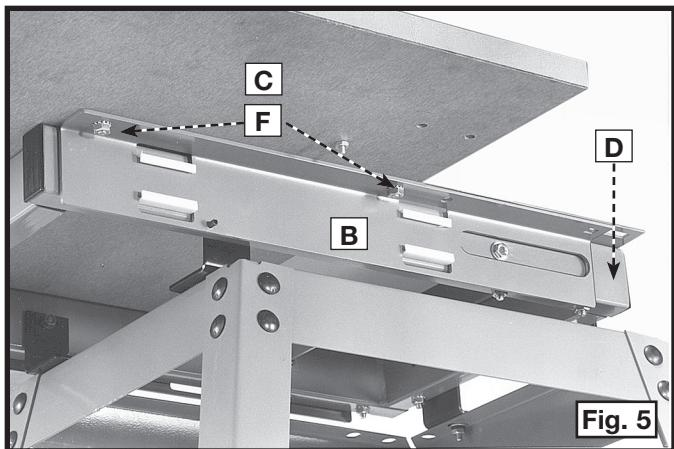
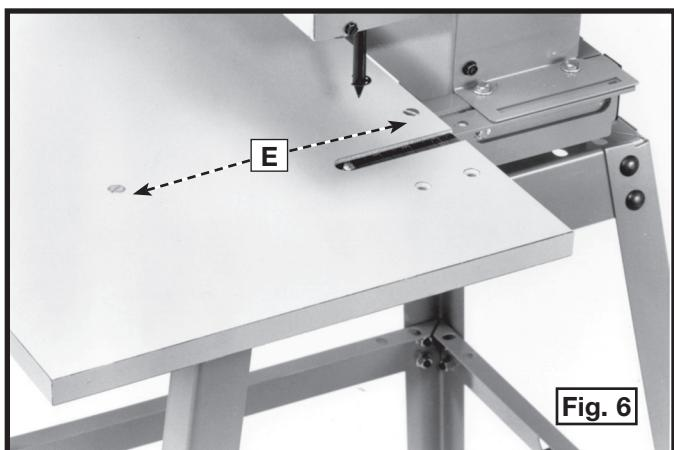

Fig. 5
Fig. 6
4. Position the table bracket (B) Fig. 5 against the machine frame (D) and underneath the table (C). Align the two holes (E) Fig. 6 in the table with the two holes (F) Fig. 5 on top of table bracket (B) Fig. 5.
5. Fasten the table to the table bracket using the two 1/4-20 x 1-1/4" (31.8 mm) flat head screws (E) Fig. 6, and two 1/4-20 lock nuts (F) Fig. 5.